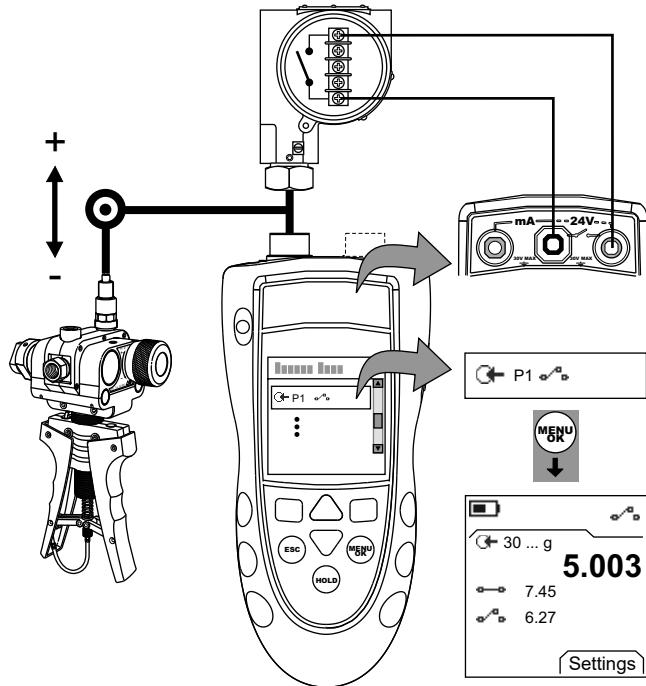

Figure 4: Example Configuration - Switch Test
- Connect the instrument (Figure 4) and, if necessary, adjust the **Set Up** (Table 1).